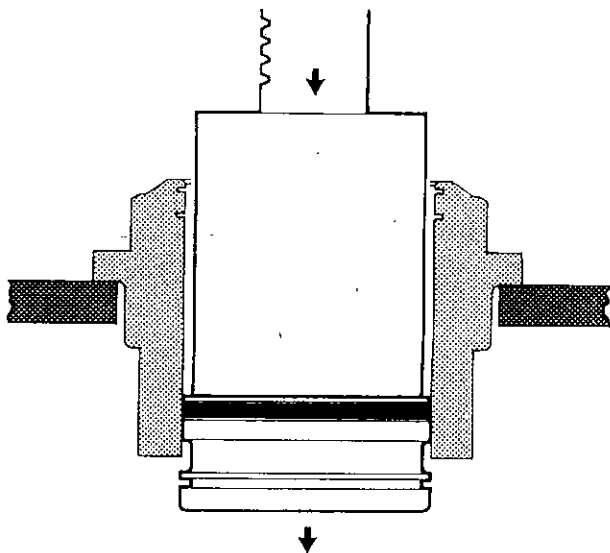

Figure 5.14
21. Invert the drive housing and remove the second retaining ring (15). This will provide additional clearance for pressing out the piston actuator (19).
22. Remove the piston actuator in direction shown in Figure 5.14.